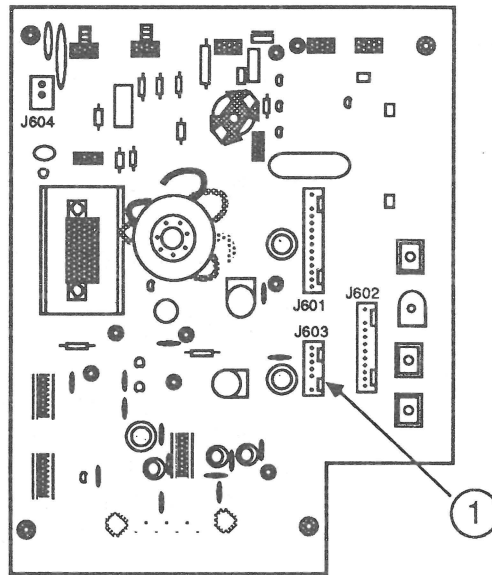

FIGURE 33
3. Reconnect the six-wire cable to connector J603 (Figure 33, #1) on the video board, threading the cable along the top of the main board. Fold the excess cable alongside the video board.